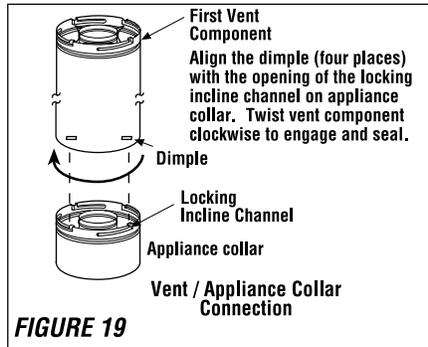

FIGURE 19
B. Attach vent components to appliance - Secure Vent SV4.5 direct vent system components are unitized concentric pipe components featuring positive twist lock connections (see **Figure 19**). All of the appliances covered in this document are fitted with collars having locking inclined channels. The dimpled end of the vent components fit over the appliance collar to create the positive twist lock connection.
To attach a vent component to the appliance collar, align the dimpled end over the collar, adjusting the radial alignment until the four locking dimples are aligned with the inlet of the four inclined channels on the collar (refer to **Figure 19**). Push the vent component against the collar until it fully engages, then twist the component clockwise, running the dimples down and along the incline channels until they seat at the end of the channels. The unitized design of the **Secure Vent** components will engage and seal both the inner and outer pipe elements with the same procedure. Sealant and securing screws are not required.
Secure Vent SV4.5 direct vent system components are unitized concentric pipe components featuring positive twist lock connection, (refer to **Figure 19** on page 11). All of the appliances covered in this document are fitted with collars having locking inclined channels. The dimpled end of the vent components fit over the appliance collar to create the positive twist lock connection.
Analyze the vent routing and determine the types and quantities of sections required 4 1/2" (114 mm), 10 1/2" (267 mm), 22 1/2" (572 mm), 34 1/2" (876 mm) and 46 1/2" (1181 mm) net section lengths are available. Plan the vent lengths so that a joint does not occur at the intersection of ceiling or roof joists. Make allowances for elbows as indicated in **Figure 19**.
D. Attach vent components to appliance - To attach a vent component to the appliance collar, align the dimpled end over the collar, adjusting the radial alignment until the four locking dimples are aligned with the inlets of the four incline channels on the collar (refer to **Figure 19** on page 11).